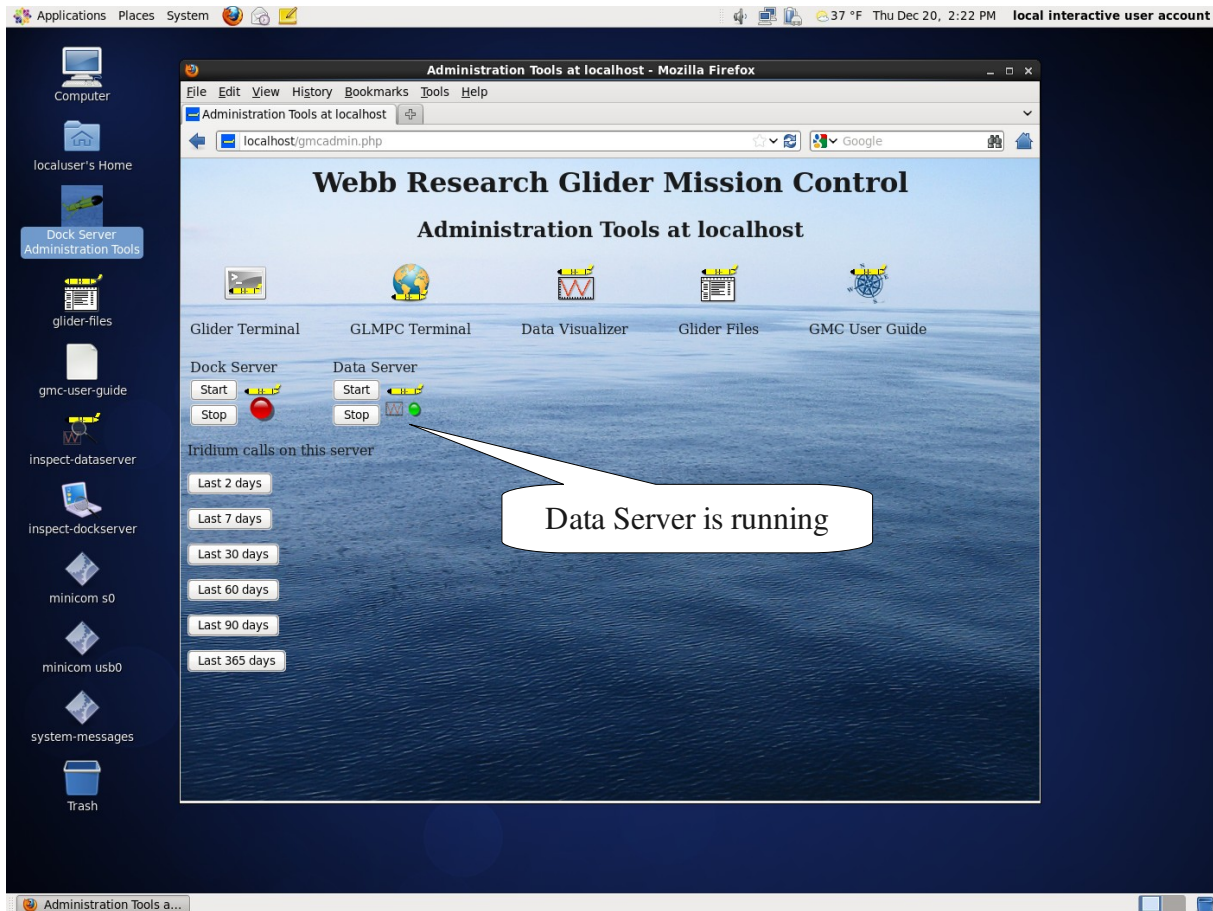

Figure 7-2. Browser window showing Data Server is running.
4. To start Data Server, click the “Start” button under the “Data Server” heading. Once Data Server starts, the state icon turns green (Figure 7-2).